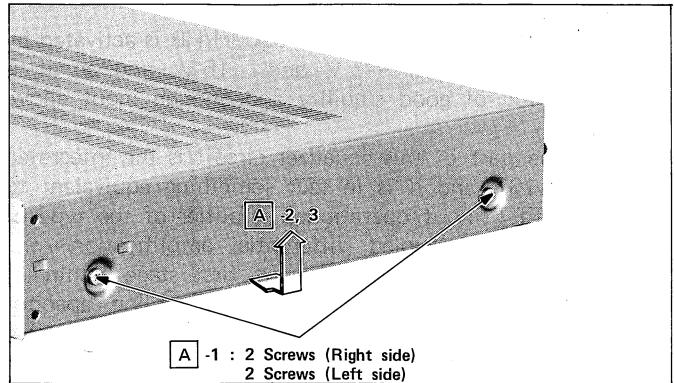

Figure 3-1
1. Remove the four screws retaining the cabinet at the right and left surfaces. (Refer to Figure 3-1)
3. Giving a force to the bottom of cabinet, hold it up and remove. (Refer to Figure 3-1)